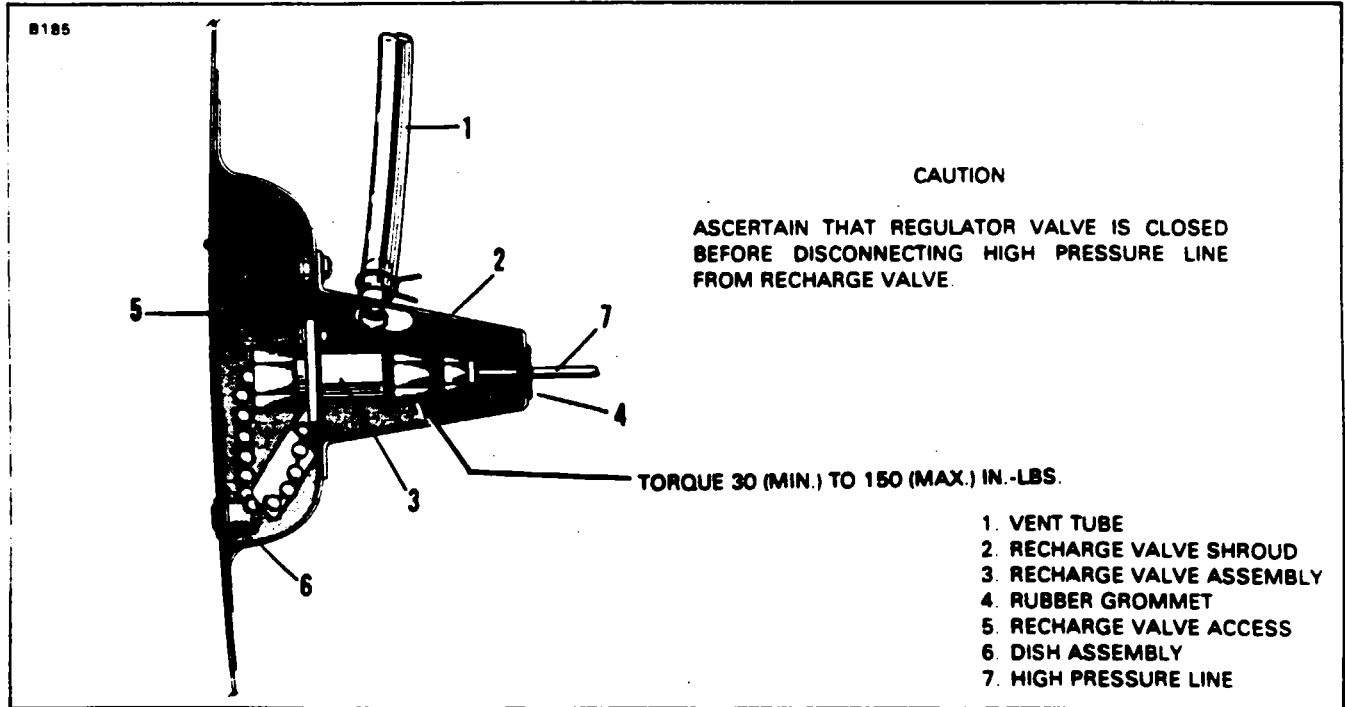

Figure 35-6. Oxygen System Recharge Valve Installation
4. Reconnect the high pressure line to the valve and torque the fitting 30 in.-lbs. min. to 150 in.-lbs. max. (Refer to Figure 35-6.)